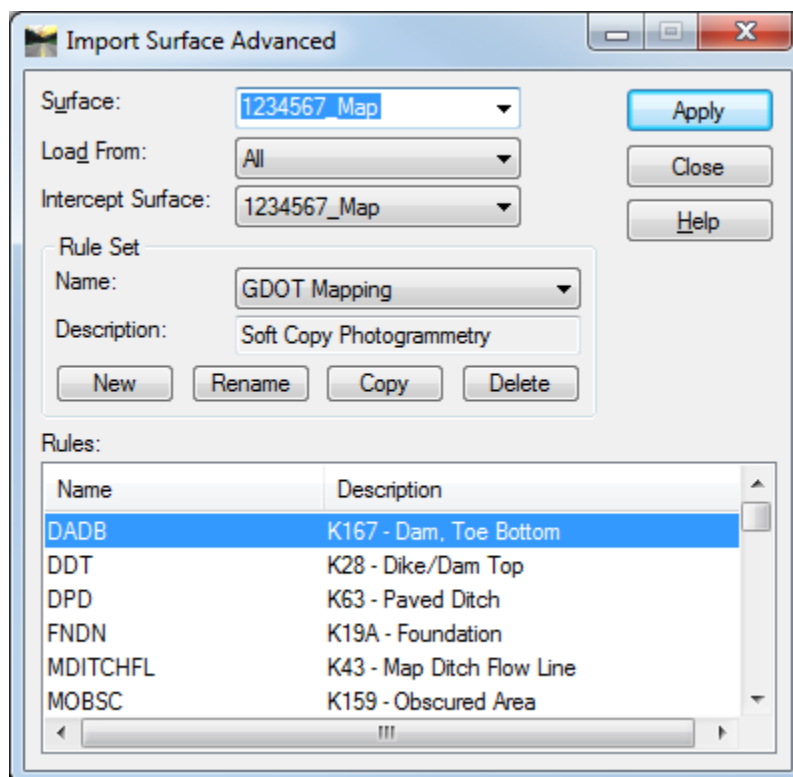

Figure L2-6 Import Surface Advanced
- 11.** In the [InRoads Software] pull-down, select **File ► Import ► Surface Advanced** and the **Import Surface Advanced** dialog box will appear. See *Figure L2-6* (as shown below).